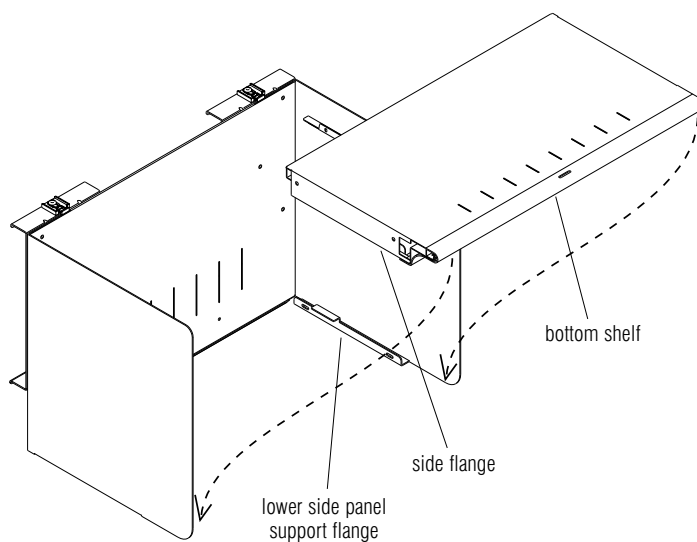

Figure 29
2. Set the bottom shelf into position by locating the side flanges of the bottom shelf over the lower support flanges of the side panels. **Figure 29.**